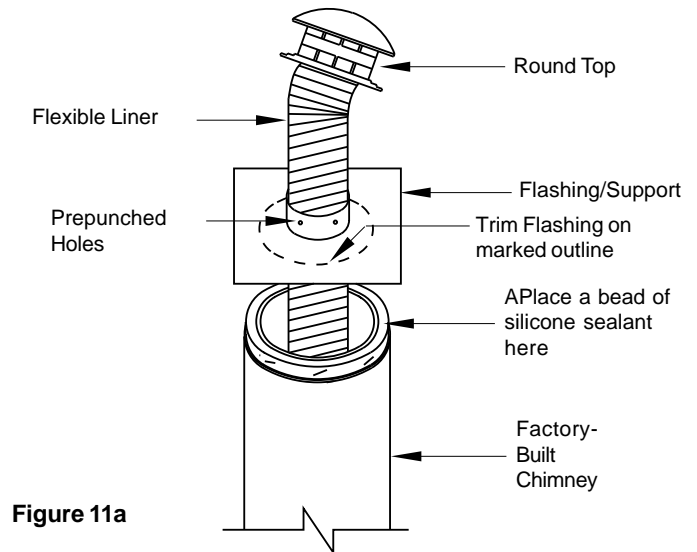

Figure 11a
2. Center the Flashing/Support on the factory-built chimney. Mark the outline of the factory-built chimney on the underside of the Flashing/Support plate (see Figure 11a). The flashing is then trimmed flush with the outline, and secured in place from the top with sheet metal screws once it is siliconed in place, as per step 6.